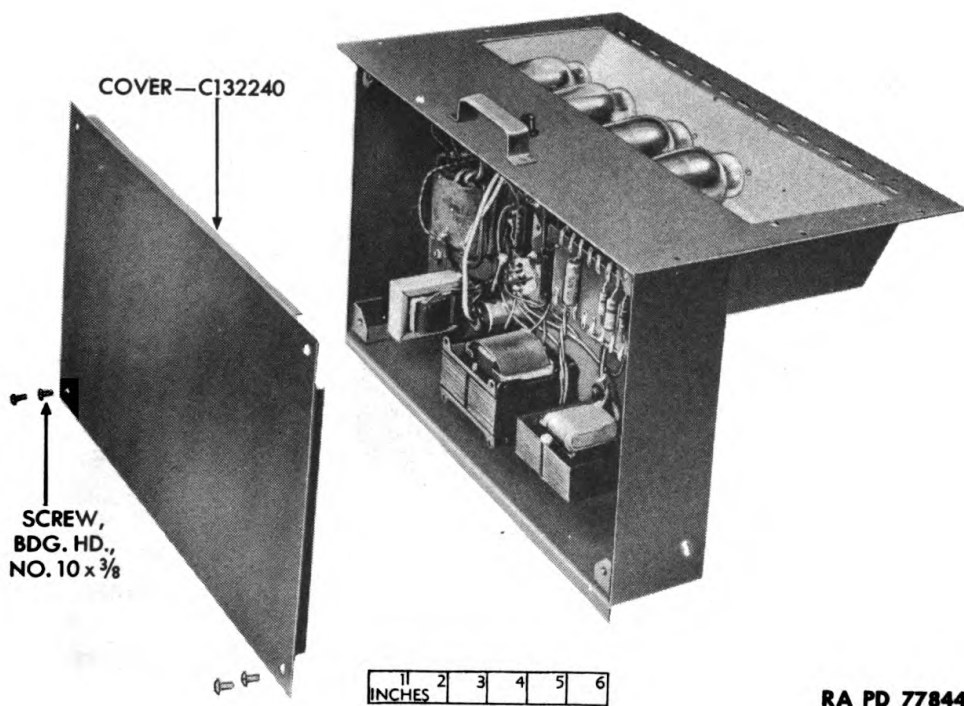

Figure 13 — Removal of Cover From Amplifier
(9) Remove the four binding head screws fastening the cover (fig. 13) to the chassis to remove the cover.